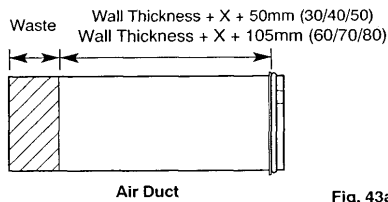

Fig. 43a
6. Measure the same amount from the flange end of the **Air Duct** and cut the waste off the plain end (Fig. 43a).